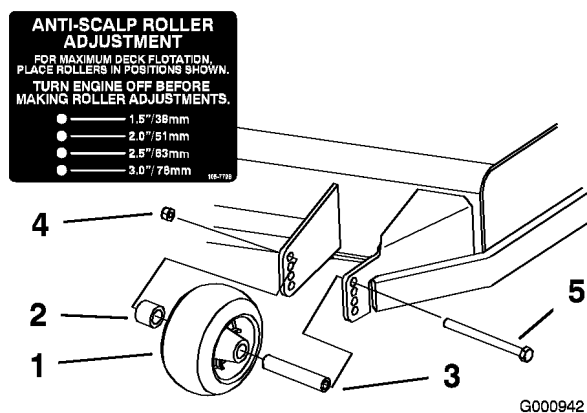
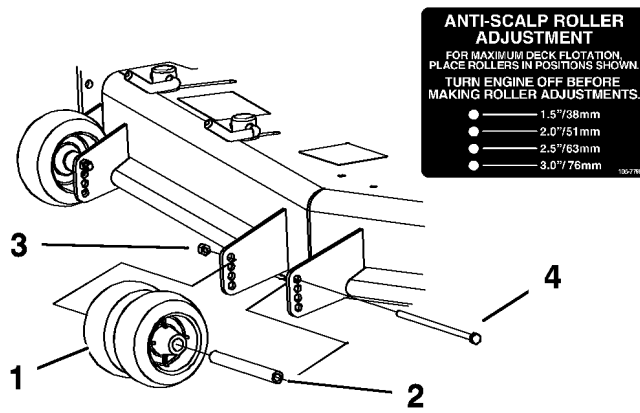
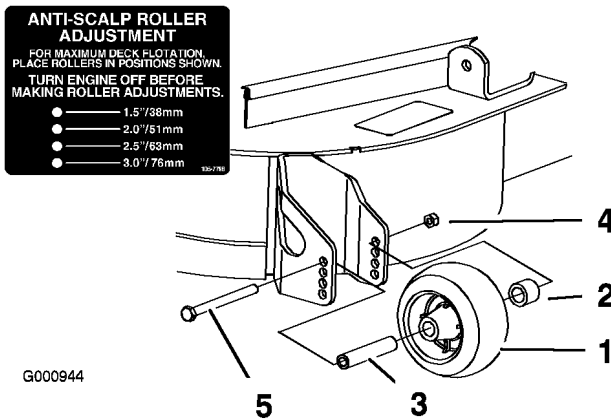

Figure 21
Figure 22
Figure 23
3. After adjusting the height-of-cut, adjust the rollers by removing the flange nut, bushing, spacer, and bolt (Figure 21 , Figure 22 and Figure 23).
Note: The two middle rollers will not have a spacer (Figure 22).
5. Install the flange nut bushing, spacer, and bolt. Torque to 40-45 ft-lb (54-61 N•m) (Figure 21 , Figure 22 and Figure 23).